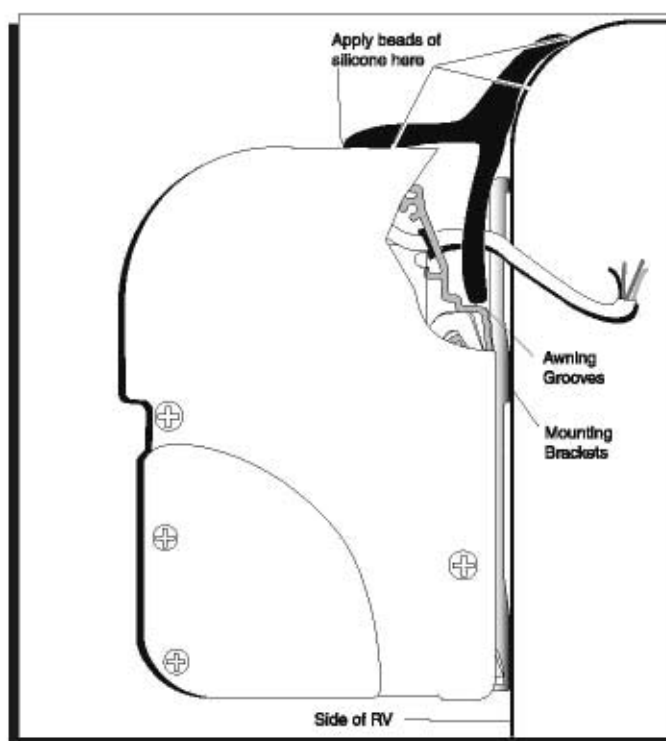

FIGURE 35
3. Apply generous beads of silicone where indicated in (Fig. 35).